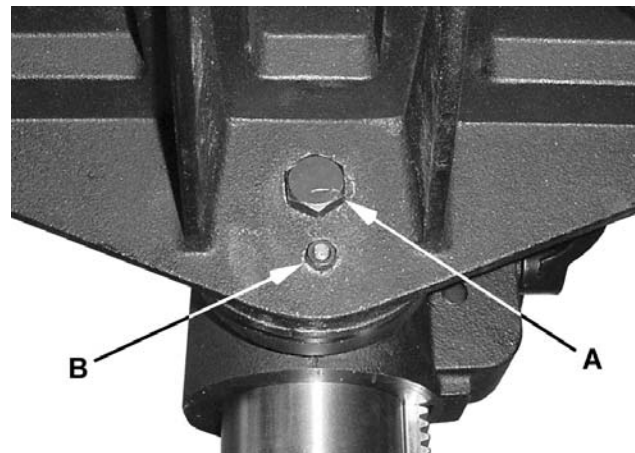

Figure 13
To tilt the table (refer to Figures 13 and 14):
1. Using a 15/16" wrench, loosen the hex cap screw (A, Figure 13) located under the table, about one turn.
3. Tilt the table to the desired angle by aligning the scale (in degrees) on the table (C) to the marker at the base of the bracket (D).
4. Tighten the hex cap screw (A).